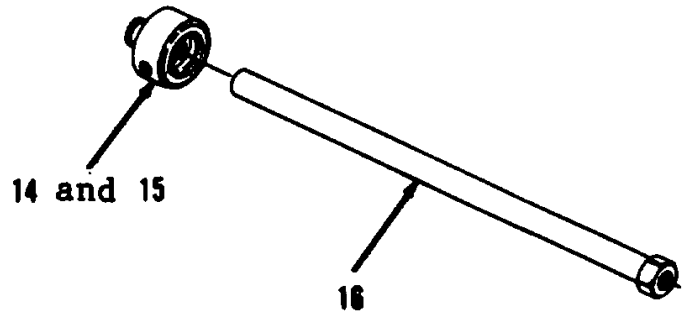

Figure 15-6.
9. Remove items 14 and 15 as an assembly from rod (16, Figure 15-6).
2. Install items 15 and 14 as an assembly on rod (16, Figure 15-6).